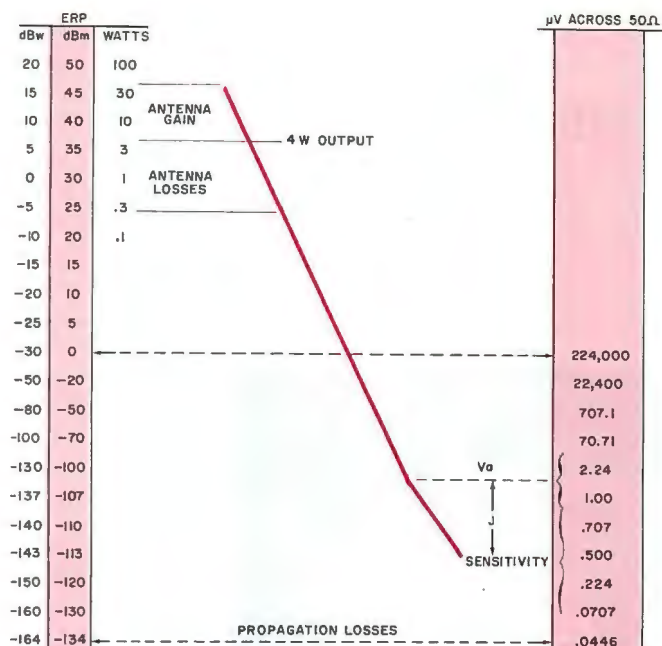
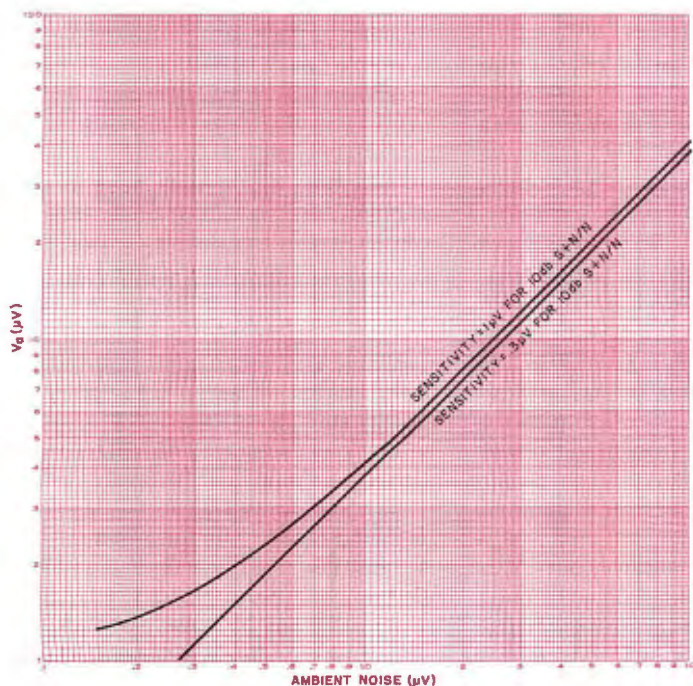
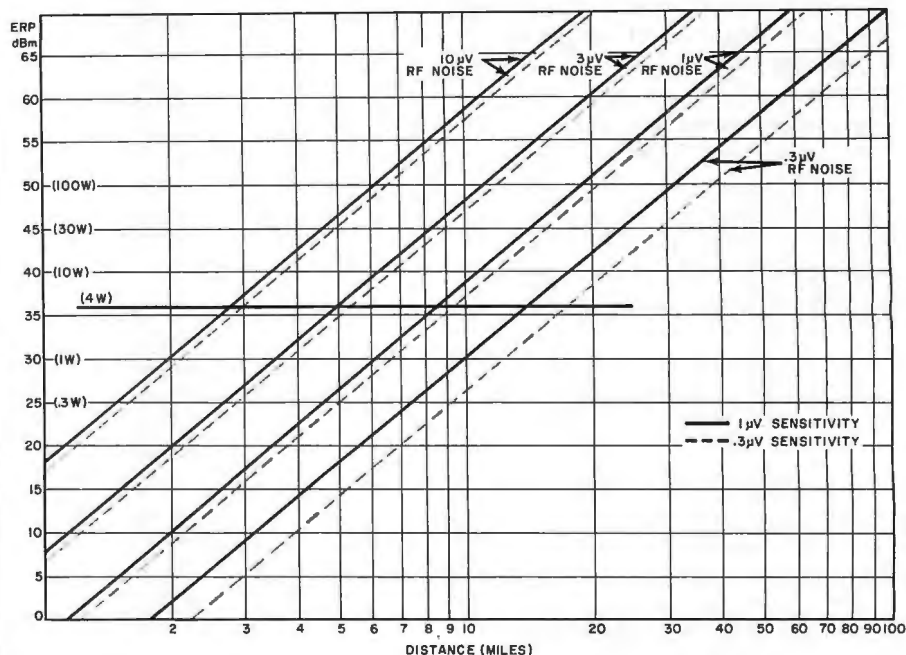

Fig. 2. Plot of  $V_a$  versus ambient r-f noise.
Fig. 1. Power level diagram shows relation between ERP, propagation losses, J factor and sensitivity.
Fig. 3. Effective radiated power versus distance for two sensitivities and various r-f noise levels.
Once the value of r-f noise has been determined, refer to the graph of Fig. 2. Note that two curves have been plotted. These correspond to receiver sensitivities of 0.3  $\mu\text{V}$  and 1  $\mu\text{V}$ , which are the approximate lower and upper limits for state-of-the-art transceivers. Find the proper value of noise on the horizontal axis, and then determine the value of  $V_a$ . This value is then inserted in the following formula:
**Range Predictions.** Having determined the J factor, you can now proceed to estimate the range for a given communications link. Referring to the Power Level Diagram in Fig. 1, the "padding" effect of the J factor is readily apparent. In Fig. 2, the influence of the J factor on  $V_a$  for given noise levels and receiver sensitivities can also be seen. The J factor and propagation losses have been considered in setting up Fig. 3, which relates ERP to distance. To simplify its use, a family of curves was plotted for the two receiver sensitivities (0.3 and 1  $\mu\text{V}$  for 10 dB S+N/N) and for four levels of r-f noise (0.3, 1, 3, and 10  $\mu\text{V}$ ).
**Further Comments.** Mobile antennas are less efficient than base antennas, so it is obvious that mobile range will be more limited. It will typically be three miles (1.8 km). From Figs. 2 and 3, it can be concluded that, for ambient r-f noise levels above  $1 \mu\text{V}$  (which is usually the case on the Citizens Band), an increase in receiver sensitivity of 333⅓%, say, from  $1 \mu\text{V}$  to  $0.3 \mu\text{V}$  for 10 dB S+N/N, reduces the required ERP only 10%. Only in extremely quiet r-f environments (under  $0.5 \mu\text{V}$ ), which probably don't exist on the Citizens Band in even the most rural areas, will there be any significant reduction in ERP required for a given distance.
Therefore, if you now have or are planning an omnidirectional antenna with unity gain mounted at 60 feet (18.3 m), and want to weigh the advantages of installing a high-gain beam and rotor system, consider this. You must subtract 6 dB from the beam's gain because of its lower height. In terms of the graph of Fig. 3, start at 36 dBm ERP, add the beam's gain, subtract 6 dB, and proceed across the graph until the appropriate r-f noise curve is reached. Then note the predicted range. If the gain of the beam is 6 dB, the range will be the same for the omni and the beam. If gains of 9 dB or more are not available, or if the beam will not be mounted considerably higher than 30 feet (9.15 m) above average ground level, the omnidirectional antenna at 60 feet (18.3 m) above ground level is the better choice. ♦